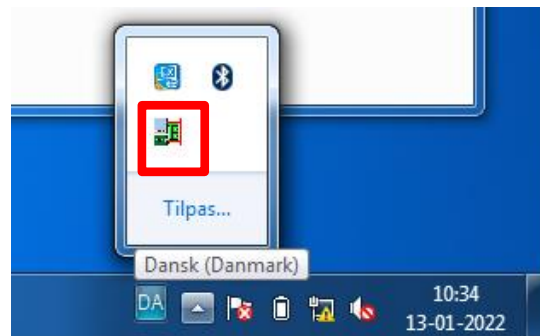

Figure 4 DHCP icon in task manager
- See Figure 4.
- Server offers IP address: 192.168.1.150-200. (See Figure 4 for example)